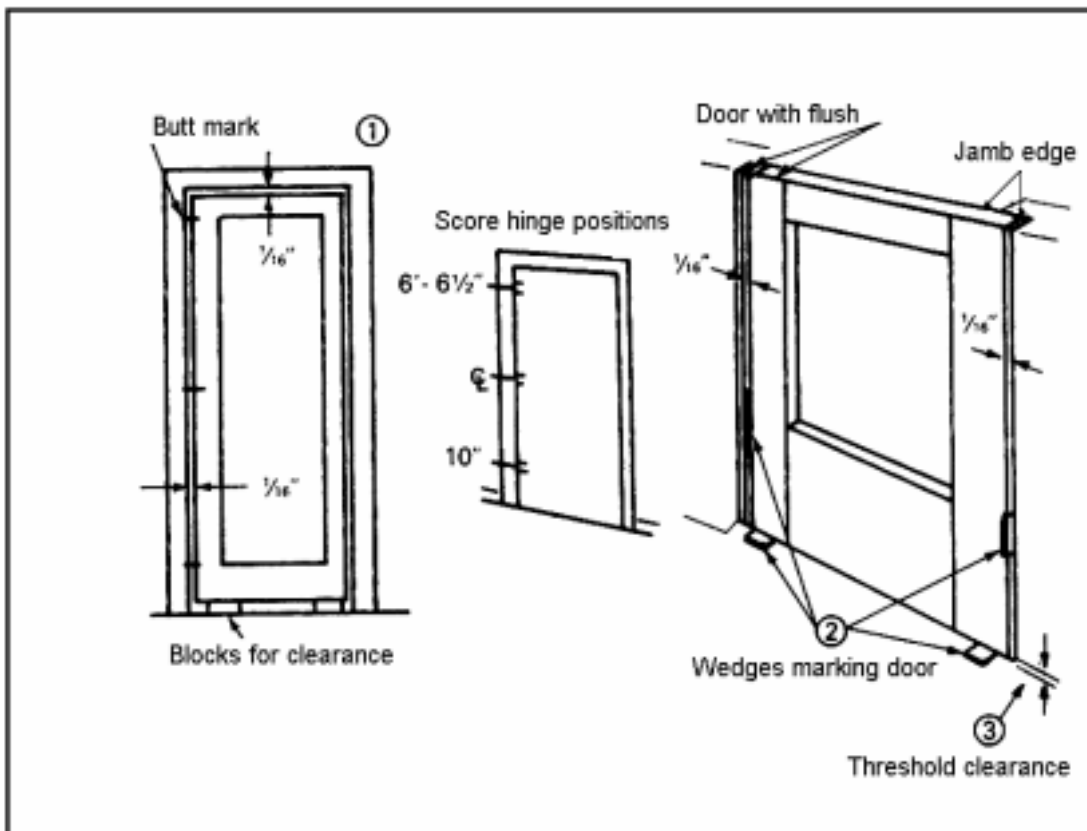

Figure 051-236-2109-1
**Conditions:** As a carpentry and masonry specialist in a field environment, given Field Manual (FM) 5-426, construction prints and specifications, a completed wood structure, prefabricated doors and windows, wedges, wood screws, a carpenter's tool kit, sawhorses, an extension ladder, a step ladder, goggles, gloves, hearing protection, a hard hat, paper, and a pencil.
1. Install doors (Figure 051-236-2109-1).